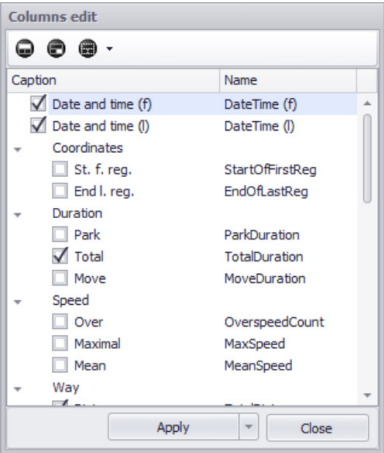

Fig. 117. The “Columns edit” menu.
Two column views are provided in Stages viewer: standard column view which allows displaying all vehicle parameters and fixed column view which allows displaying the user column set. To switch to the fixed view, click the “Fixed columns” button on Stages viewer toolbar (**Fig. 116, item 3**). To set up columns – add new or delete undesired – go to the “Columns edit” menu by clicking the “Columns edit” button on the module toolbar. An example of the “Columns edit” menu is shown in **Fig. 117**.